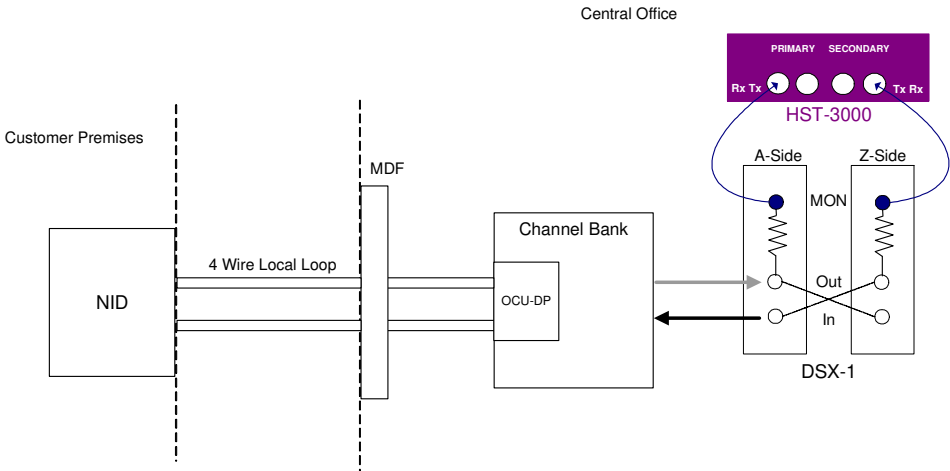

Figure 9 Monitor connections
- 9 Connect the HST-3000 to the test access point (see Figure 9):